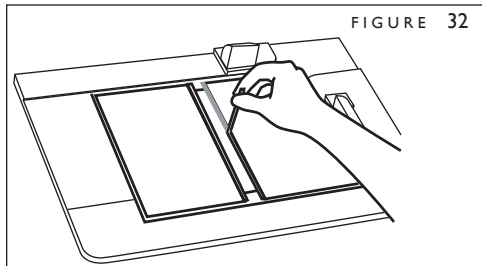

FIGURE 32
2. Place an empty Fastback Hardcover, adhesive side up, in the Hardcover Guide and clamp in place. The top and right edges of the cover should be under the translucent green stops. If the book width is C or greater, you may use the green plastic inserts to ensure that the book block does not shift during binding. Remove the narrow release paper from the right panel of the Fastback Hardcover, exposing a small portion of the super-strong binding adhesive that coats the interior hard covers. (Figure 32).